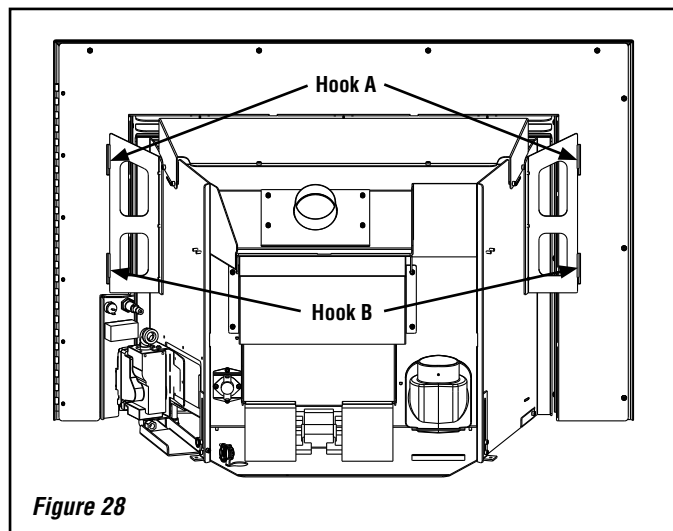

Figure 28
1. Hang the surround on hooks attached to insert (labeled A and B). Make sure the surround is seated firmly on the hooks. See **Figures 28 and 29**.